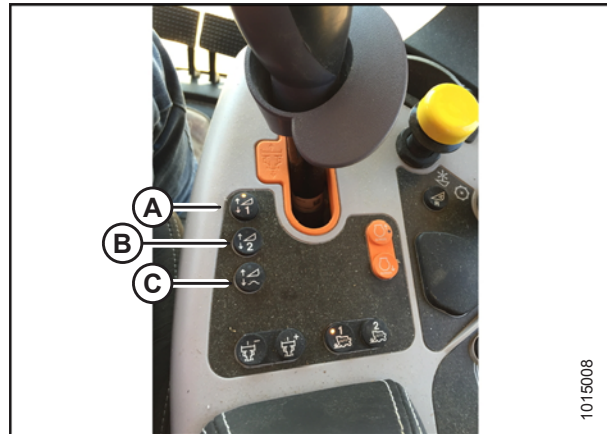

Figure 3.373: New Holland Combine Controls
5. Select one of the auto height set point buttons shown in Figure 3.373, page 224.